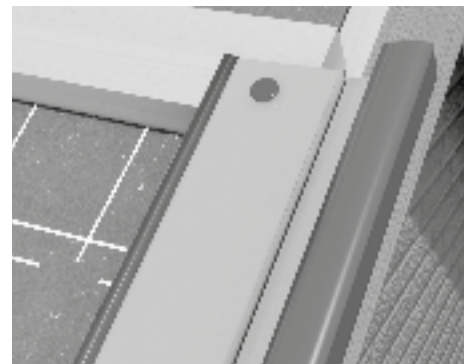

Fig. 20 – Cut 15mm in from end of trim
- 5 When joining adjacent lengths of verge trim, ensure the lower length of trim is nailed securely to each batten (joints at the centre of a batten) (Fig. 20).